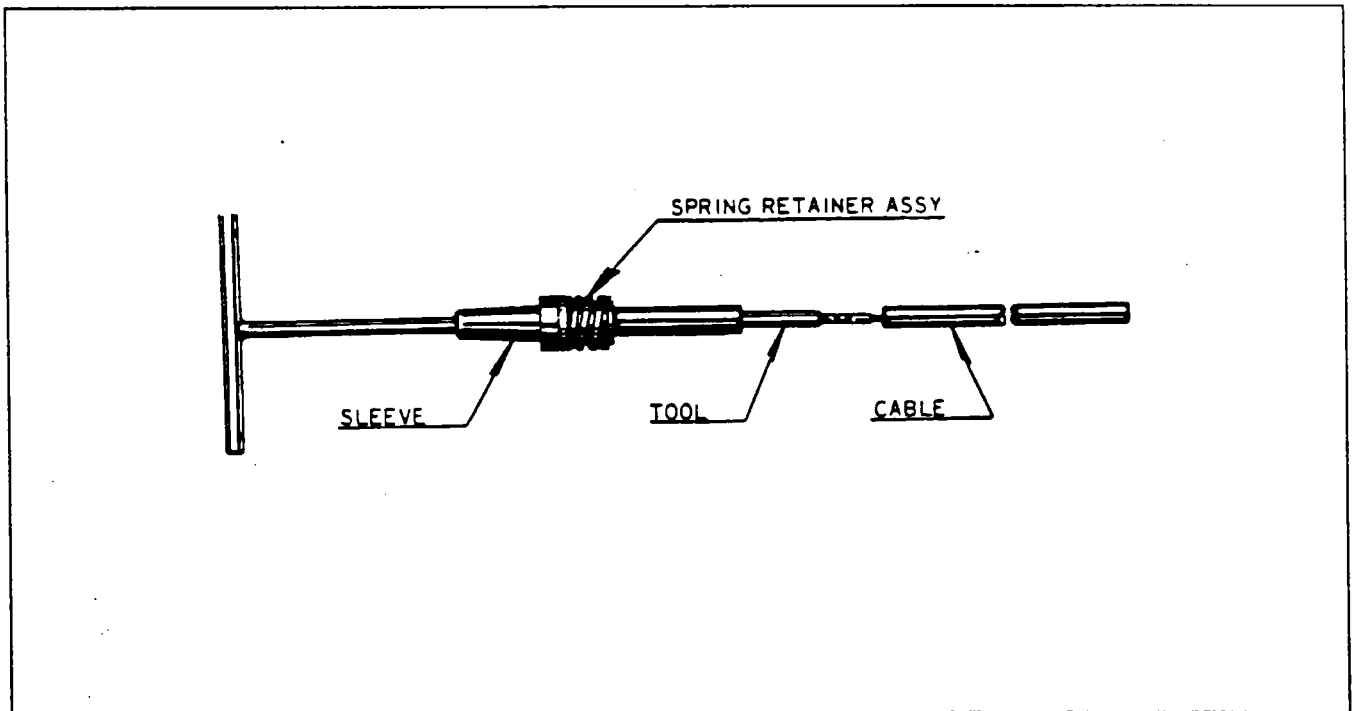

Figure 74-15. Using Assembly Tool
- C. Push the fabricated tool through insulating sleeve and spring retainer assembly as shown in Figure 74-15. Screw the cable terminal into the tool.